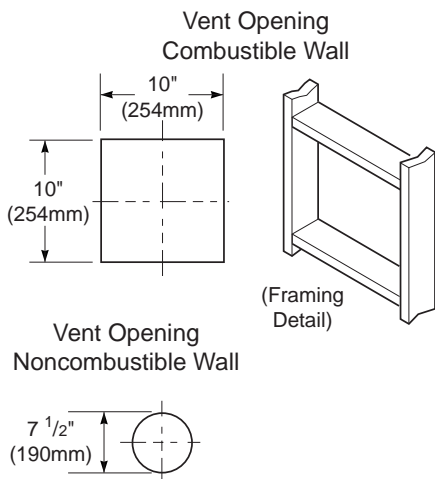
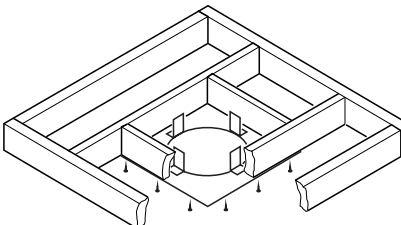

Figure 12 - Vent Opening Requirements
Figure 22 - Installing Firestop
- Attach vent pipe assembly to the fireplace. Set fireplace in front of its permanent location to insure minimum clearances. Mark the wall for a 10" square hole (for noncombustible material such as masonry block or concrete, a 7 1/2" diameter hole is acceptable). See Figure 12. The center of the hole should line up with the centerline of the horizontal rigid vent pipe. Cut a 10"x10" (254mm x 254mm) square hole through combustible exterior wall (7 1/2" [190mm] diameter hole if non-combustible). Frame as necessary (see Figure 12).
1. Cut a 10" square hole in the ceiling using the locating hole as a center point. The opening should be framed to 10"x10" (254mm x 254mm) inside dimensions, as shown in Figure 12 on page 9 using framing lumber the same size as the ceiling joists. If the area above the ceiling is an insulated ceiling or a room, nail firestop from the top side. This prevents loose insulation from falling into the required clearance space. Otherwise, install firestop below the framed hole. The firestop should be installed with no less than three nails per side (see Figure 22).
3. Cut a hole in the roof using the locating hole as a center point. (Cover any exposed open vent pipes before cutting hole in roof.) The 10"x10" hole must be measured on the horizontal; actual length may be larger depending on the pitch of the roof. There must be a 1" clearance from the vent pipe to combustible materials. Frame the opening as shown in Figure 12, page 9.